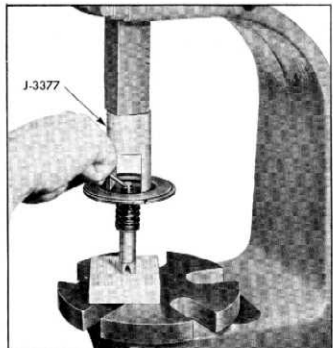

Fig. 196—Removing Low Servo Piston Rod Retainer
1. Place low servo piston in a bench press. Support the notched end of piston rod on a wood block. With tool, J-3377, compress piston spring and remove rod retainer (fig. 196).